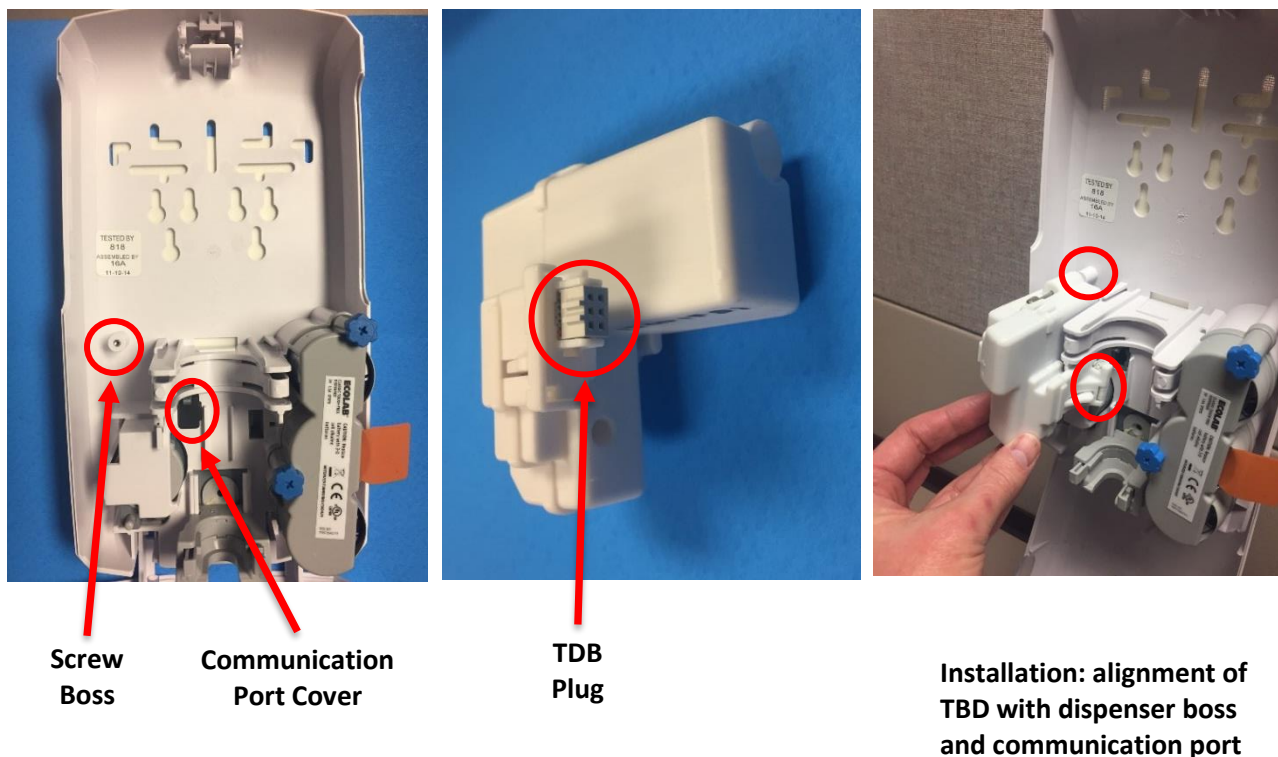

Figure 4. TDB Installation into Nexa™ Touch Free Dispenser
- (1) Open the dispenser by depressing the top latch button.
- (2) Remove product bottle (if any) from the dispenser and set aside.
- (3) Remove the rubber communication port cover in the back of the dispenser (see figure 4) and discard.
- (4) Align the TDB plug with the communication port, and the housing's captive screw with the screw boss in the back of the dispenser (see figure 4).
- (5) Gently but firmly insert the TDB plug into the communication port, until it is firmly seated in the port.
- (6) Tighten the captive screw finger tight into the boss.
- (7) Replace the product bottle within the dispenser.
- (8) Close the dispenser.
6. Once the battery compartment door has been removed, install two (2) AAA alkaline batteries, aligning the positive (+) and negative (-) terminals of the batteries with the corresponding signs displayed within the battery compartment (Ecolab recommends that only Duracell® Coppertop batteries be used to power the module.)
8. To replace the TDB in the Nexa Touch Free Dispenser, align the TDB plug with the communication port, and the housing's captive screw with the screw boss in the back of the dispenser (see figure 4).